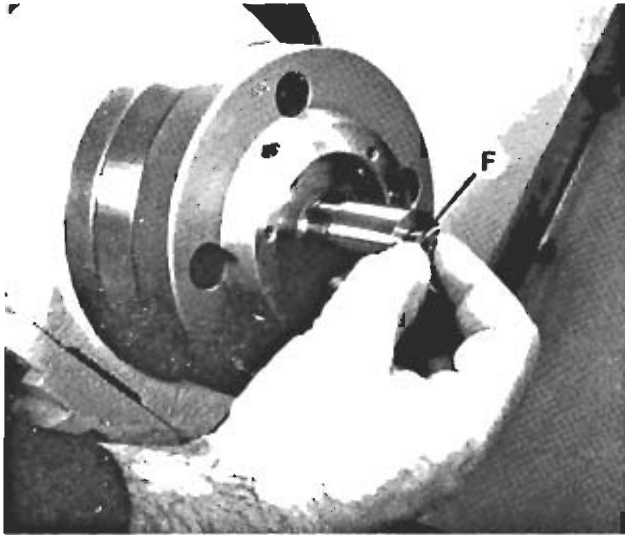

Figure 7 - Expanding Collet Draw Plug
8. Place expanding collet draw plug "F", Figure 7, through the expanding collet and screw it into the draw collet until it is flush with face of the collet.